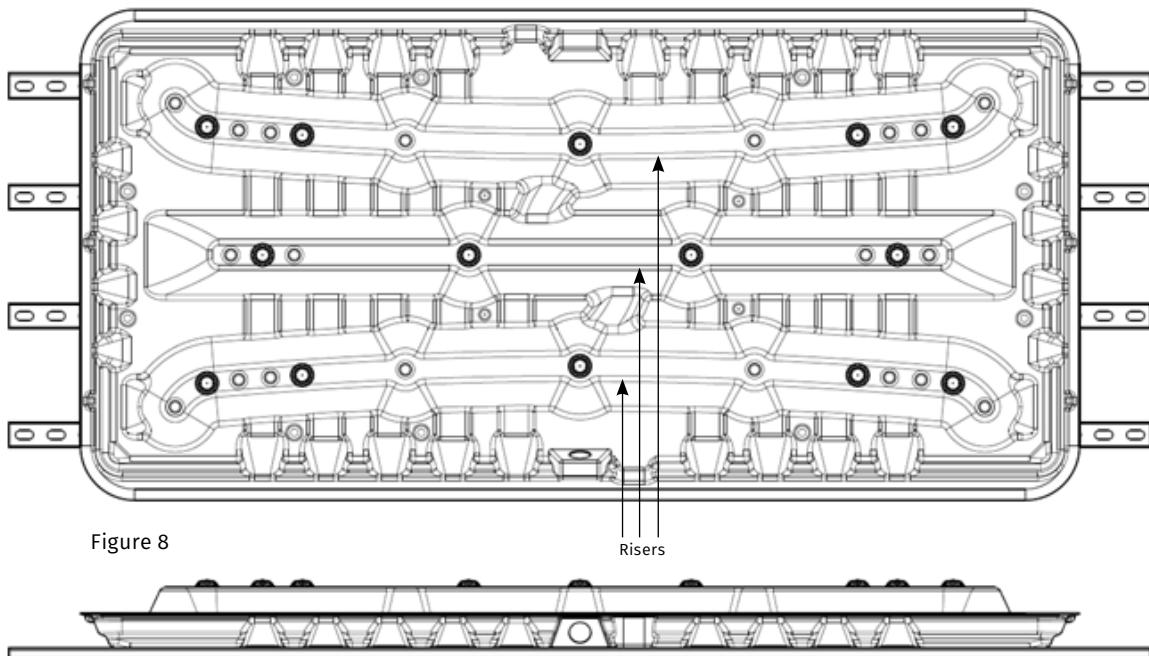

Figure 8
7. When NOT hanging, place pan directly on the floor. If the floor is not leveled, use "2X4" studs or slotted channels. Make sure it supports the bottom surface of the pan, but NOT directly below the Risers. Make sure the length of the studs or channels is longer than the total length of the pan. (Figure 8)